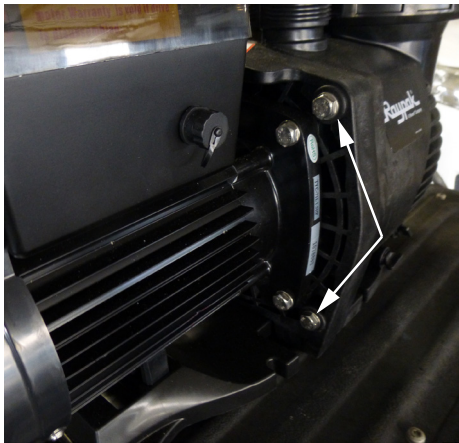

Figure 1. Pump Separation, Bolt Location
4. Separate pump motor and flange from pump volute by removing the two outer bolts and then the two outer bolts on the opposing side. Pull the motor and flange back and away from the volute. See **Figure 1**.